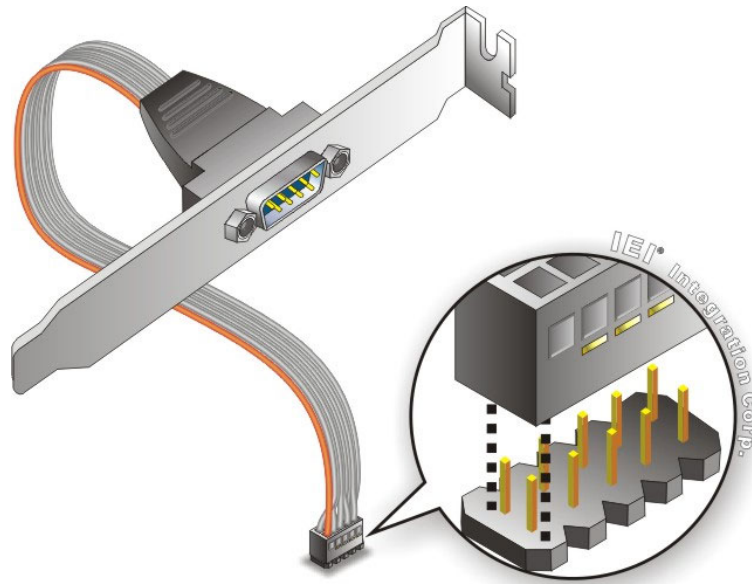

Figure 4-23: RS-232 Cable Installation
- Step 3: Insert the cable connectors.** Once the cable connector is properly aligned with the serial port connector on the WAFER-KBN-i1, connect the cable connector to the on-board connector. See **Figure 4-23**